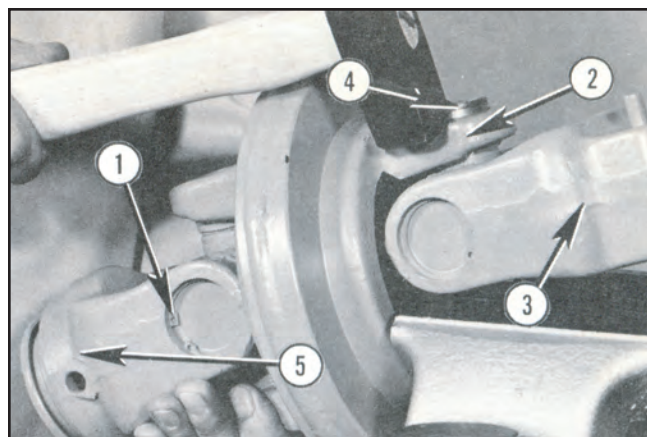

FIGURE 96
2. Relieve radial drag on the internal snap ring (eg. (1) in flange yoke (2) by circumferentially tapping it with a drift. With snap ring pliers, remove it. Repeat this for the opposite side of the flange yoke. Refer to Figure 96.
4. Rest joint assembly in a vice with outer yoke (3) across top of vice jaws. Use CAREFUL hammer blows to drive center cross needle bushing (4) upward. Vertically rocking yoke (5), as bushing is driven out, provides ear clearance between yokes (2) and (3).